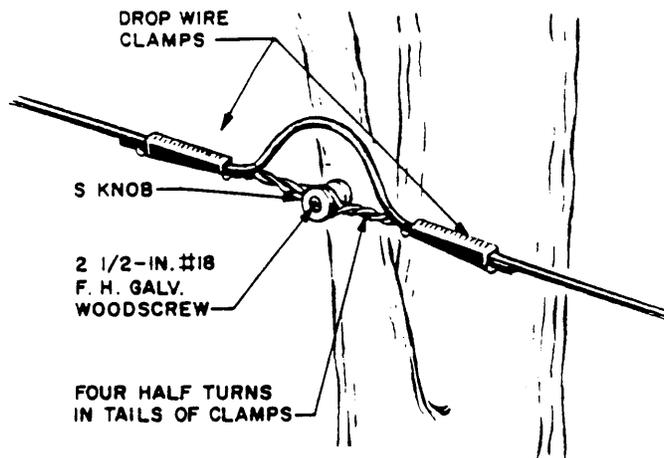

Fig. 17—Straight Run on Small Diameter Tree
5.05 Use S knobs when attaching drop wires to limbs or trunks of trees having diameters between 3 and 6 inches. Not more than one drop wire shall be attached to an S knob. On straight runs or corners, attach the drop wire to the S knob as shown in Fig. 17 and 18.